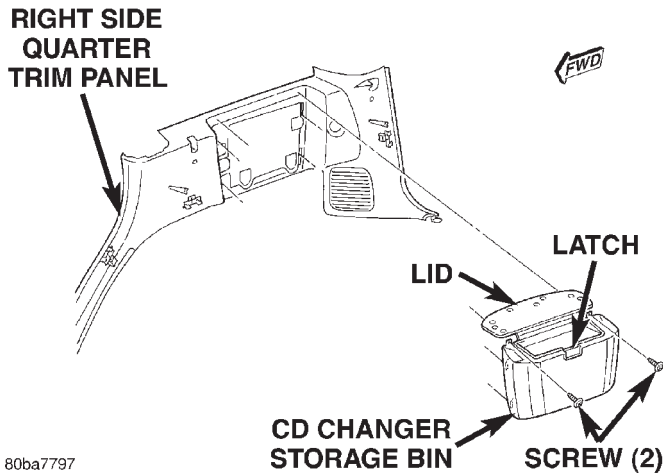

Fig. 5 Compact Disc Changer Storage Bin Remove/Install
- (1) Disconnect and isolate the battery negative cable.
- (2) Release the latch and open the lid of the compact disc changer storage bin on the right side quarter trim panel (Fig. 5).